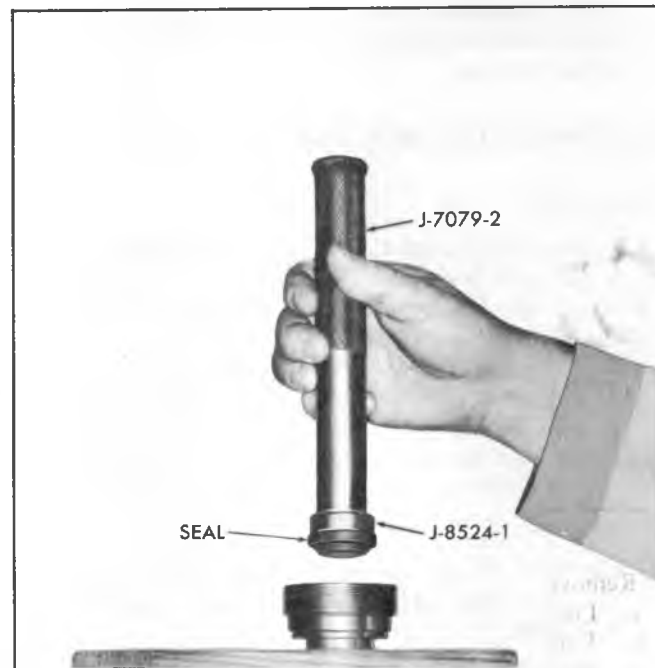

Fig. 41—Installing Adjuster Plug Seal
2. Place dust seal and a new oil seal on Tool J-8524-1 (lip of seal away from tool). Lubricate seal with Power Steering Fluid and drive or press seals into adjuster plug until seated (fig. 41).